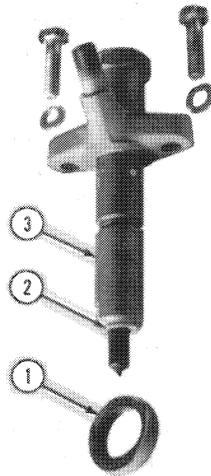

Figure 5
3. Position the valve spring compressor over the valve and spring, as shown in Figure 5, and compress the spring.